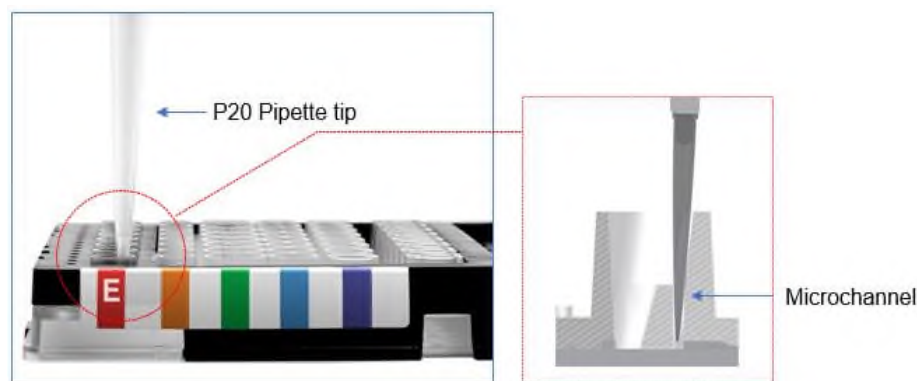

Figure 8. Recovery of any remaining RNA from the Extraction Well microchannel
3. Using a P20 pipette set to 10 μ L, aspirate any remaining RNA or DNA extract from the microchannel on the right side of the Extraction Buffer well and combine with the extract from Step 2. See **Figure 8**.